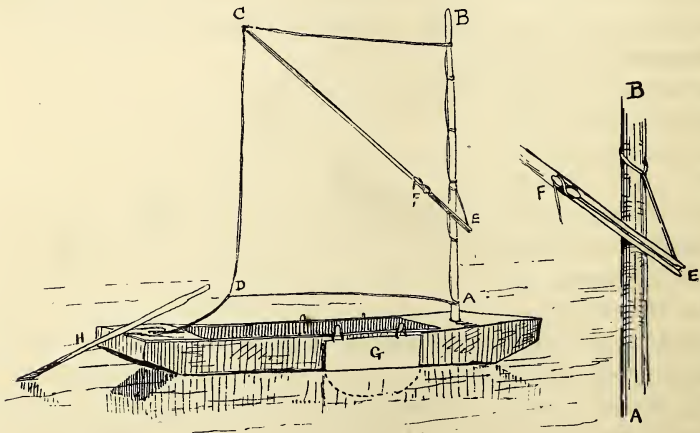
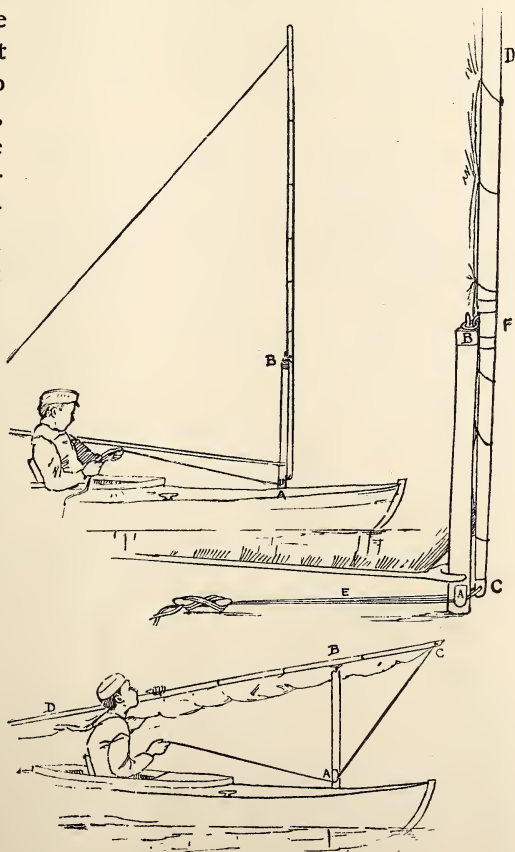
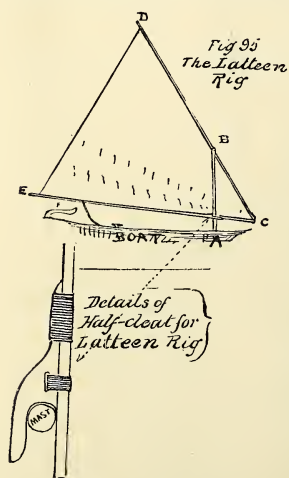

FIG. 92.
FIG. 94.—A New Device.
FIG. 95.—The Latteen Rig.
"I will suppose that the reader has the use of a broad, flat-bottomed boat without any rudder. (See Fig. 92.) She can-
“ Lace the luff of the sail to the mast so that its lower edge will swing clear by a foot or so of the boat’s sides. Make fast to the loop at D a stout line, ten or twelve feet long. This is called the ‘sheet,’ and gives control of the sail. The upper end of the sprit, C, E, is trimmed so that the loop at C will fit over it but not slip down. The lower end is simply notched to receive a short line called a ‘snotter,’ as shown in the detailed drawing at the right of the cut (Fig. 92). It will be readily understood that, when the sprit is pushed upward in the direction of C, the sail will stand spread out. The line is placed in the notch at E and pulled up until the sail sets properly, when it is made fast to a cleat or to a cross piece at F. This device is in common use and has its advantages, but a simple loop for the foot of the sprit to rest in is more easily made and will do nearly as well. H is an oar for steering. Having thus de-
“ Fig. 94 shows a device, published for the first time in the *St. Nicholas Magazine* for September, 1880, which enables the sailor to step and unstep his mast, and hoist or lower his sail without leaving his seat—a matter of great importance when the boat is light and tottlish, as in the case of that most beautiful of small craft, the modern canoe, where the navigator sits habitually amidships. The lower mast (A, B, Fig. 94) stands about two and a half feet above the deck. It is fitted at the head with a metal ferrule and pin, and just above the deck with two half-cleats or other similar devices (A). The topmast (C, D) is fitted at F with a stout ring, and has double halyards (E) rove through or around its foot. The lower mast being in position (see lower part of Fig. 94), the canoeist desiring to make sail brings the boat’s head to the wind, takes the top-mast with the sail loosely furled in one hand, and the halyards in the other. It is easy for him by raising this mast, without leaving
his seat, to pass the halyards one on each side of the lower mast and let them fall into place close to the deck under the half-cleats at A. Then, holding the halyards taut enough to keep them in position, he will hook the topmast ring over the pin in the lower mast-head and haul away (see top part of Fig. 94). The mast will rise into place, where it is made fast. A collar of leather, or a knob of some kind, placed on the topmast just below the ring, will act as a fulcrum when the halyards are hauled taut, and keep the mast from working to and fro.
form is shown in Fig. 95. The arrangement for shipping and unshipping the yard is precisely like that shown in Fig. 94—a short lower mast with a pin at the top and a ring fitted to the yard. It has a boom at the foot which is joined to the yard at C by means of a hook or a simple lashing, having sufficient play to allow the two spars to shut up together like a pair of dividers. The boom (C, E) has, where it meets the short lower mast, a half-cleat or jaw, shown in detail at the bottom of the cut (Fig. 95), the circle representing a cross section of the mast. This should be
the spread of sail when the wind becomes too fresh. If you will look at Fig. 95 you will see rows of short marks on the sail above the boom. These are 'reef-points'—bits of line about a foot long passing through holes in the sail, and knotted so that they will not slip. In reefing, the sail is lowered and that portion of it between the boom and the reef-points is gathered together, and the points are tied around both it and the boom. When the lower row of points is used it is a single reef. Both rows together are a double reef.
“Make your first practical experiment *with a small sail and with the wind blowing toward the shore*. Row out a little way, and then sail in any direction in which you can make the boat go, straight back to shore if you can, with the sail out nearly at right angles with the boat. Then try running along shore with the sheet hauled in a little, and the sail on the side nearest the shore. You will soon learn what your craft can do, and will probably find that she will make very little, if any, headway to windward. This is partly because she slides sidewise over the water. To prevent it you may use a 'lee-board'—namely, a broad board hung over the side of the boat (G, Fig. 92). This must be held by stout lines, as the strain upon it is very heavy. It should be placed a little forward of the middle of the boat. It must be on the side away from the wind—the lee side—and must be shifted when you go about. Keels and centre-boards are permanent contrivances for the same purpose, but a lee-board answers very well as a makeshift, and is even used habitually by some canoeists and other boatmen.
the end of the tiller. When the handle of the oar (H, Fig. 92)—or the tiller (F, Fig. 95) if a rudder is used—is pushed to the right, the boat will turn to the left, and *vice versa*. The science of steering consists in knowing when to push and how much to push—very simple, you see, in the statement, but not always so easy in practice.